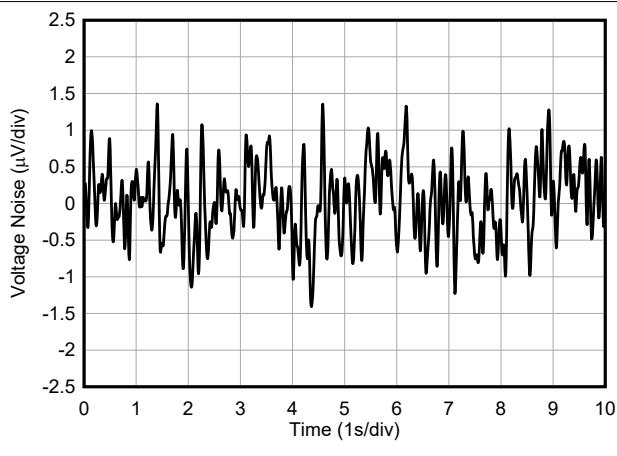

Figure 7-28. 0.1-Hz to 10-Hz RTI Voltage Noise
0.1-Hz to 10-Hz RTI Voltage Noise, $G = 1$	Figure 7-28